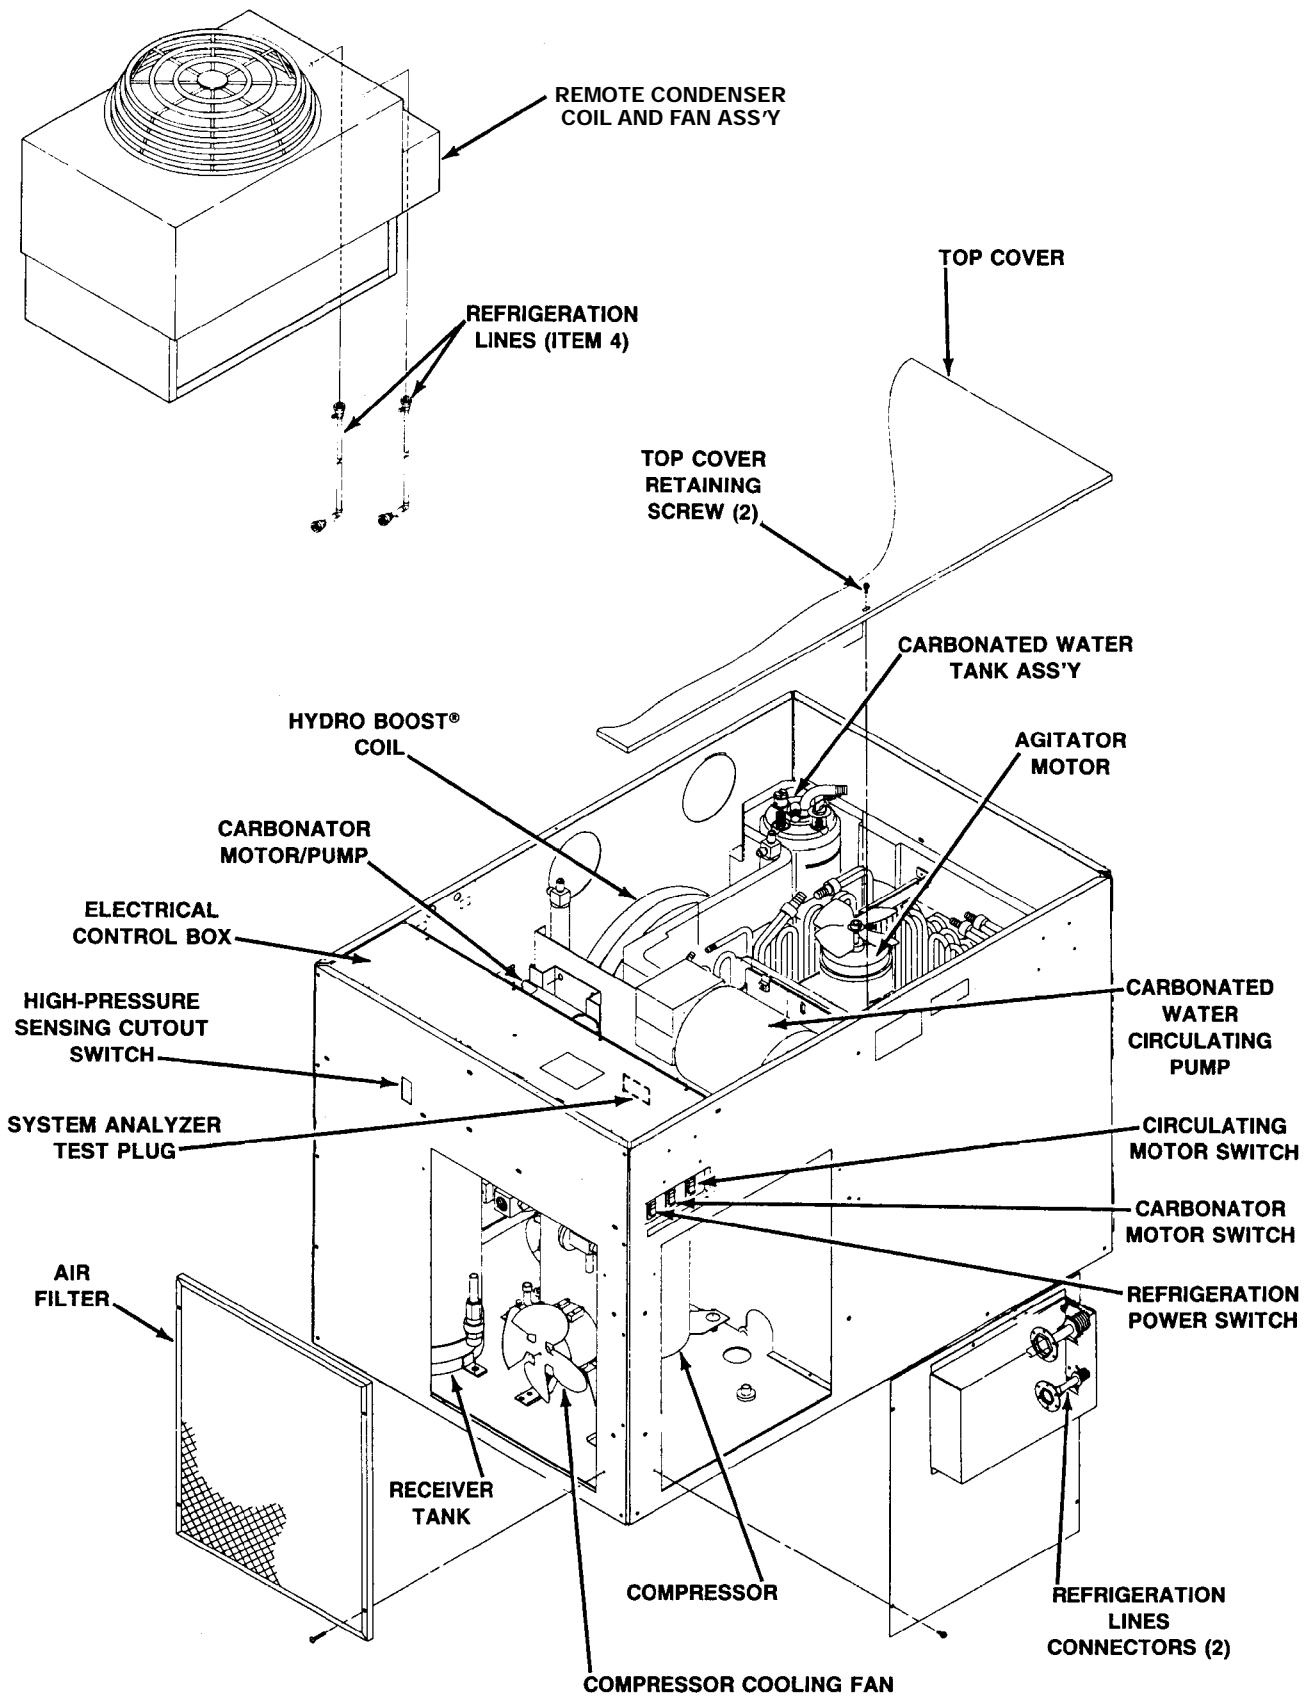

FIGURE 5. PARTS IDENTIFICATION
(see Figure 5)
**CAUTION:** Remote Condenser Coil and Fan Assembly connected to the Cooling Unit is equipped with a condenser coil that must be cleaned every 30-days. Allowing condenser coil to become clogged will cause refrigeration system to overheat which will automatically shut refrigeration system down. After condenser coil has been cleaned, high-pressure cutout sensing switch (see Figure 5) will have to be pressed to restart refrigeration system. **OPERATING COOLING UNIT IN THIS MANNER FOR PROLONGED PERIOD OF TIME COULD RESULT IN COMPRESSOR FAILURE.**
(see Figure 5).
**CAUTION:** Remote Condenser Coil and Fan Assembly connected to this Cooling Unit is equipped with a condenser coil that must be cleaned every 30-days. Allowing condenser coil to become clogged will cause refrigeration system to overheat which will automatically shut refrigeration system down. After condenser coil has been cleaned, high-pressure sensing cutout switch (see Figure 5) must be pressed to restart refrigeration system. **OPERATING COOLING UNIT IN THIS MANNER FOR PROLONGED PERIOD OF TIME COULD RESULT IN COMPRESSOR FAILURE.**